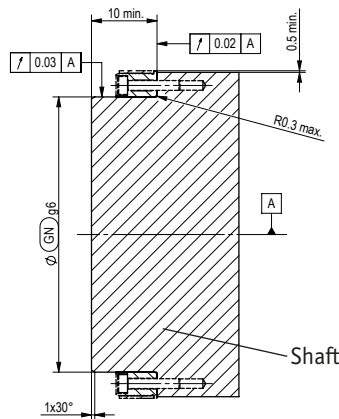

Fig. 1: Connection dimensions on the customer's side
1. A sliding fit must be provided between the customer shaft and the MRAC200 (see Fig. 1).